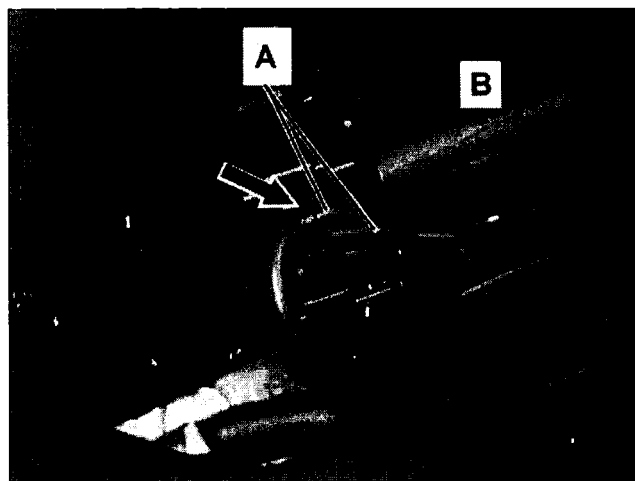

Figure 10
8. Remove cable tie (arrow, Figure 10) securing ground wires (A) to SBC connector housing (B).